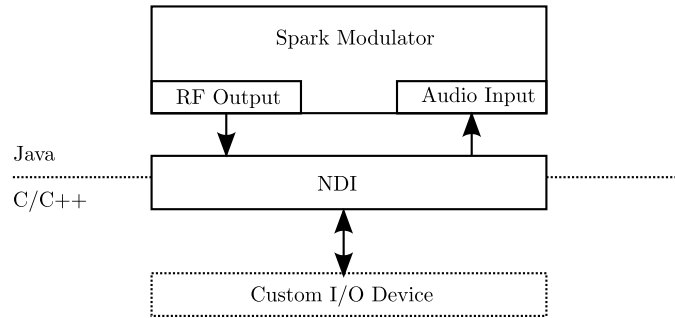

Figure 1: Role of the native device interface in the Spark environment.
The NDI is a set of C++ functions which allow for using proprietary input and output devices together with Spark. Figure 1 depicts the role of the NDI in the Spark I/O environment. The NDI is provided as a shared library to Spark, i.e. as a Dynamic Linked Library (DLL) under Windows or as a Shared Object File (SO) under Linux.
Figure 1 shows a schematic overview of the Spark NDI architecture. Spark forwards the RF data to the NDI target lines or retrieves the audio data from the NDI source lines.